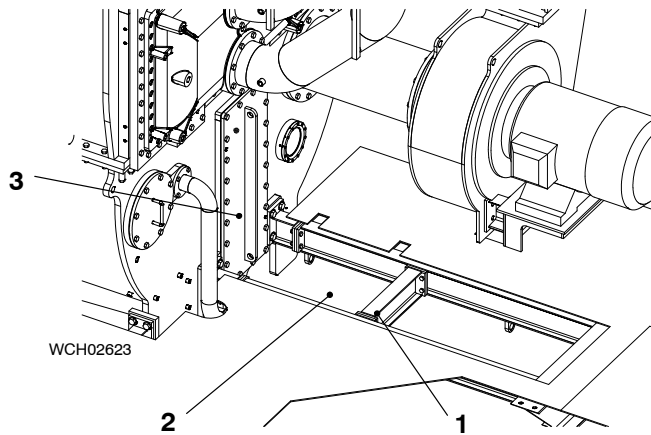

Fig. 16
- 11) Install the cover (3, Fig. 16) to the receiver.
- 12) Install the bottom plate (2).
- 13) Install the beam (1).